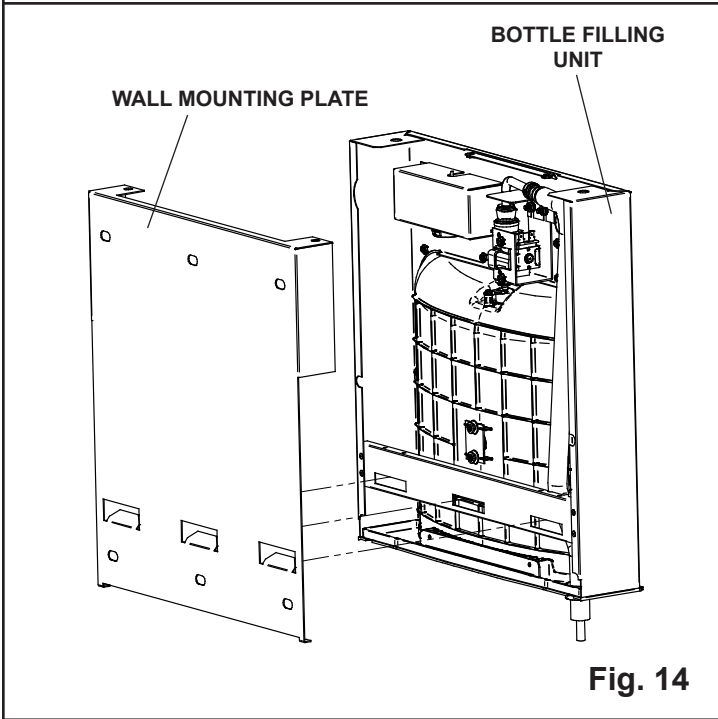

Fig. 14
- 8) **With the power cord and waterline through hole** on top of water cooler place Bottle Filler on the three (3) angled tabs protruding from the wall mounting plate installed on wall. Make sure round boss in gasket fits in hole of basin. (See Fig. 14).
- 9) **Once Bottle Filler is installed on wall plate tabs,** water line and power cord are installed properly, push top of Bottle Filler toward wall and line up top cover two (2) holes.